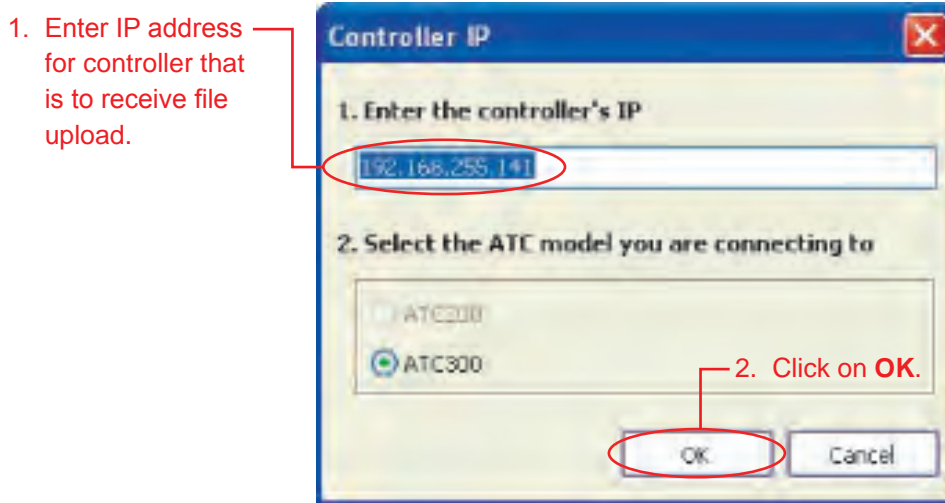

Figure 9-8. Specifying The Controller To Receive The File Upload.
3. Enter the IP address for the controller that is to receive the file upload (Figure 9-8).
Note that '\*.tar' type files are only used with the ATC300-1000/2000 Controller, so the screen shown in Figure 9-8 will only allow this option to be selected.
4. Click on **OK** (Figure 9-8).